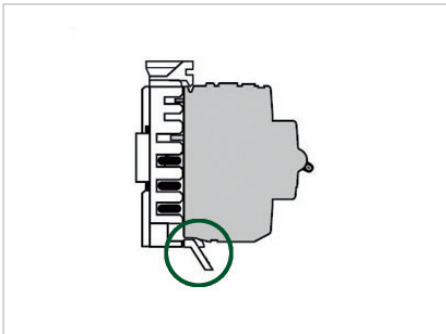

Fig.7: Plug-in position
- The position shall be in the upper position as in Fig.7